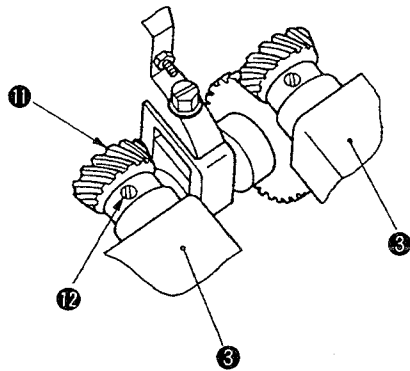

Fig. 25
1. Loosen three screws ⑫ in hook driving shaft screw gear ⑪ in Fig. 25.
2. Align the blade point of the hook with the center of the needle, and tighten screws ⑫.